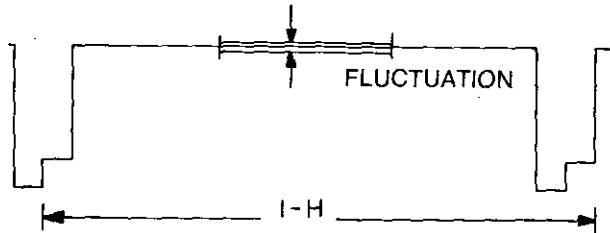

Figure 12
- 4) Adjust VR502 to obtain minimum fluctuation(A straight line) as shown in figure 12.
- 6) Adjust and confirm patterns as shown in figure 12 and 13.